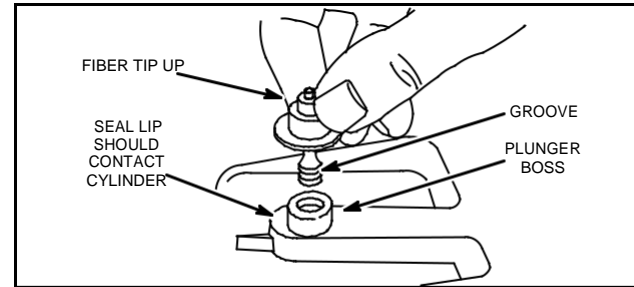

Fig. 18 – Install Plunger and Seal
2. Install plunger with fiber tip up, Fig. 18.